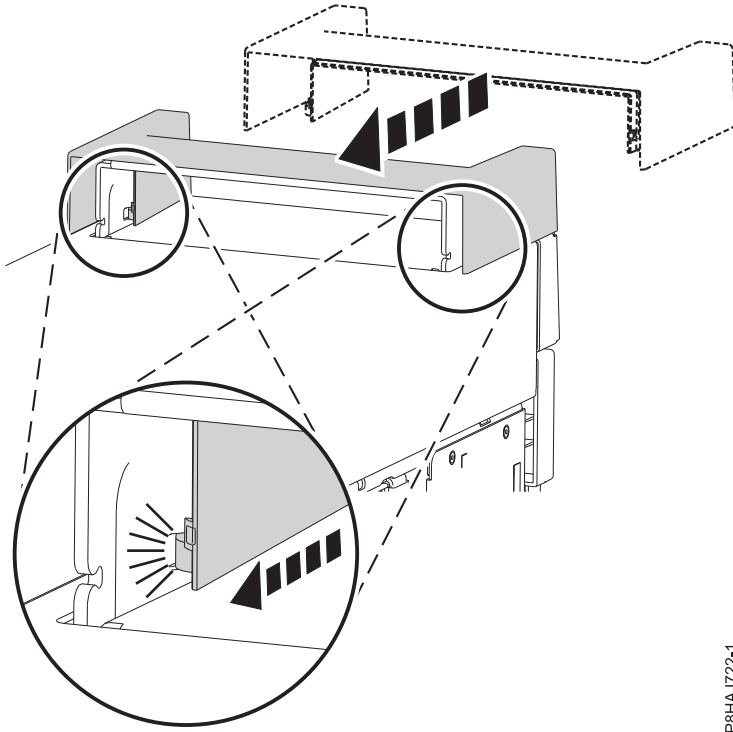

Figure 59. Securing the handle cover in an 8286-41A stand-alone system
1. Secure the handle cover to the internal RDX docking station (FC EUA3) by sliding it toward the rear of the system. See Figure 59.